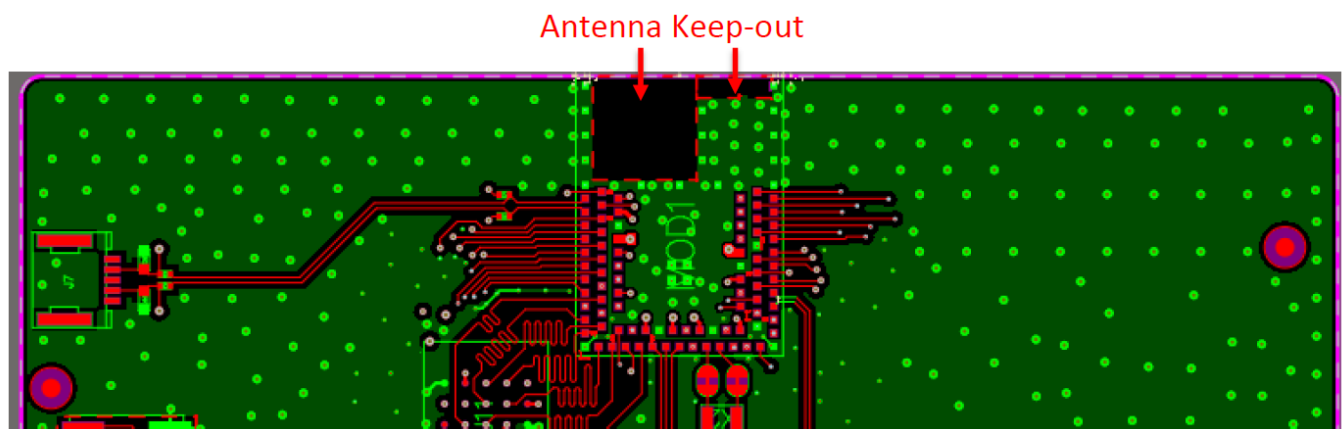

Figure 8: Chip Antenna keep-out area (shown in red), corner of the BL54H20 development board for the 453-00197 module.
- The BL54H20 development board (453-00197-K1) has the 453-00197 module on the edge of the board (not in the corner). The antenna keep-out area is defined by the BL54H20 development board which was used for module development and antenna performance evaluation is shown in Figure 8, where the antenna keep-out area is 5mm wide, 5mm long; with PCB dielectric (no copper) height 1.6mm sitting under the 453-00197 chip antenna. There is an extra copper cutout of 3.631mm x 1.046mm under 453-00197 chip antenna RF matching circuit.
- Host PCB land pattern and antenna keep-out for the BL54H20 applies when the 453-00197 is placed in the edge of the host PCB preferably in the edge center. Figure 8 shows an example.